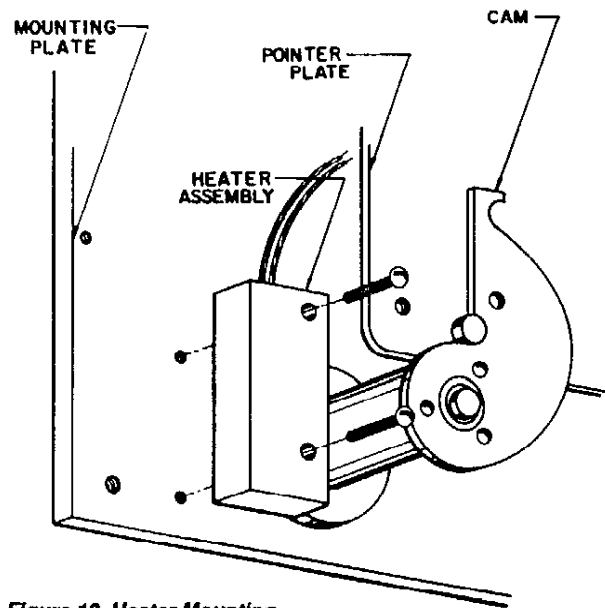

Figure 12. Heater Mounting
6.4.1 To Install a Heater (See Figure 12)